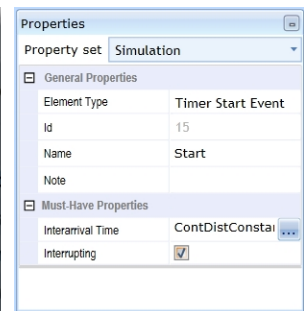

Figure 3: Simulation Properties of the Timer Start Event
3. Now click the button right of the empty field of the Inter-arrival Time option under the Must-Have-Properties (See Figure 3 below)